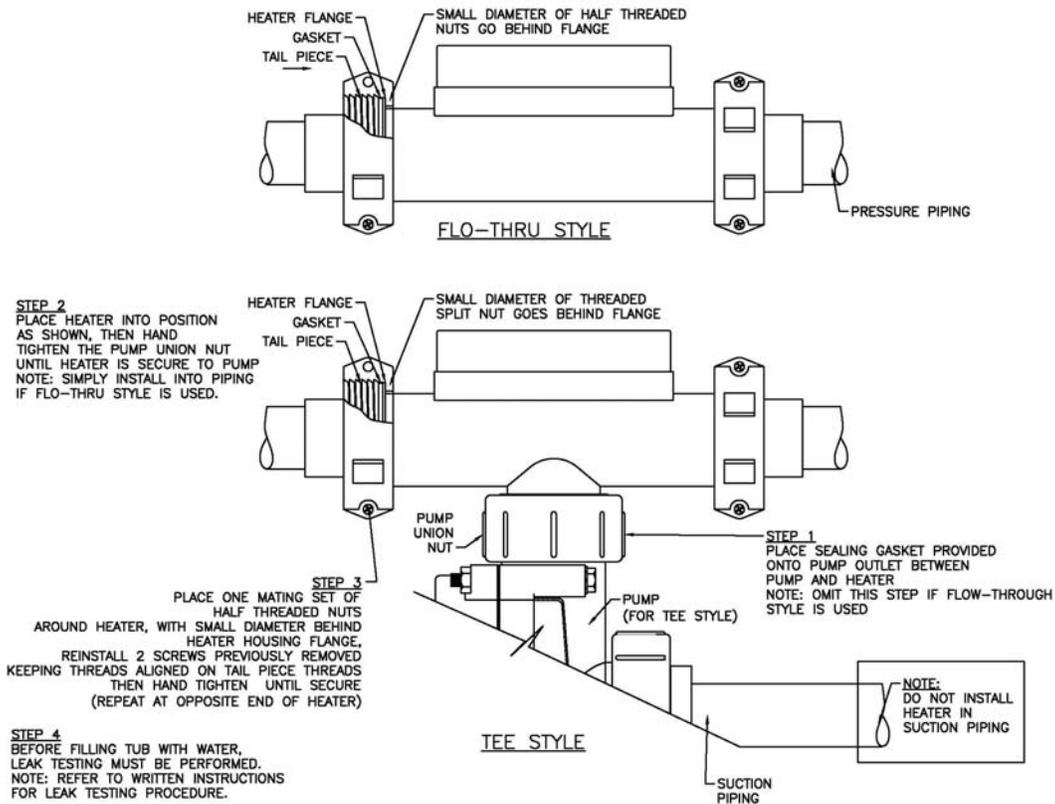

Figure 5
Step 15. You will now attached the heater to the system's piping by taking the two thread halves of gray SPLIT NUTS that you've remove on step 13 and place them around the heater body and over the threads of the heater tail piece. The metal flange on the each end of the heater is is to be located in front of the retaining portion of the two SPLIT NUT threaded halves and is to come to rest against the gaset on each end of the heater tail pieces. Make sure that you have aligned the threads of the two SPLIT NUT threaded halves with the threads on the heater tail pieces before you secure them in place with the two screws that were removed in step 13. (see figure 5). Repeat this procedure on the opposite end of the heater.